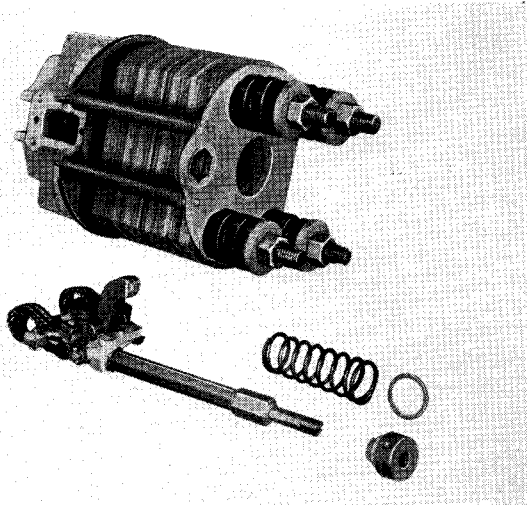

FIG. 18a. Removing Crank-Arm Contact
Ref. Fig. 18a. To remove the crank arm contact, first remove the Micarta and upper metal shields (5) and (4). Disconnect the lower end of both crank arm shunts (10). Insert and tighten down a $\frac{3}{8}$ -16 x $\frac{3}{4}$ long hex head bolt with a standard $\frac{1}{2}$ " washer under the head in the upper end of the operating rod (16). This permits removal of the pin through the sleeve, links and upper rod end on the operating rod. Removal of the $\frac{3}{8}$ -16 bolt will permit dropping the operating rod down out of the way. Removing the four bolts through the crank arm bearing plate frees the crank arm contact for removal.